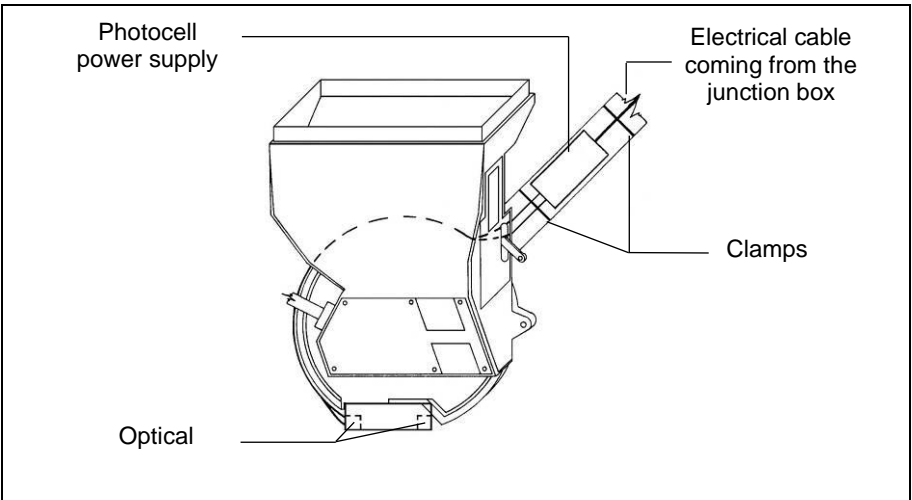

Figure 5. Example of installation on the sowing element.
- If the seeding has elements of sowing "low" and the seed falls to the ground directly from the disk, the photocells are those to install code. 4228 (stirrup depending on the type of seeding) and be mounted directly onto the seed.(Figure 5)